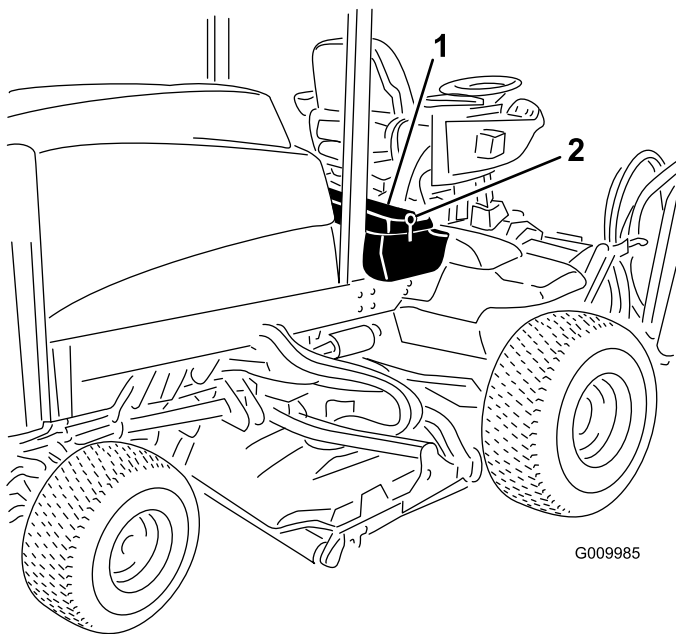

Figure 36
1. Unlatch and raise the operator's console panel (Figure 36).